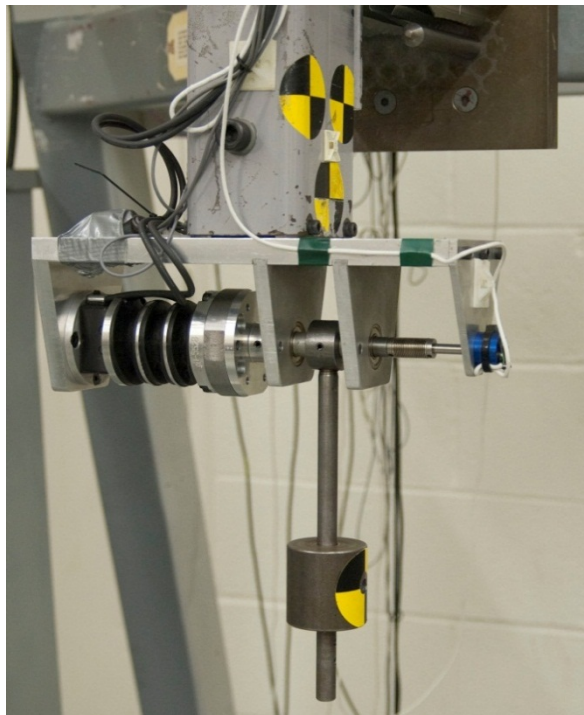

Figure 56. Final configuration for neck torsion test
- The final test setup configuration is shown in Figure 56.